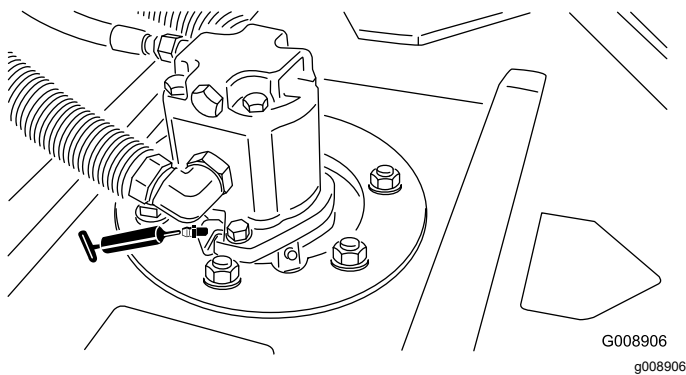

Figure 41
- 2 (per cutting unit) cutting unit spindle-shaft bearings (Figure 41)